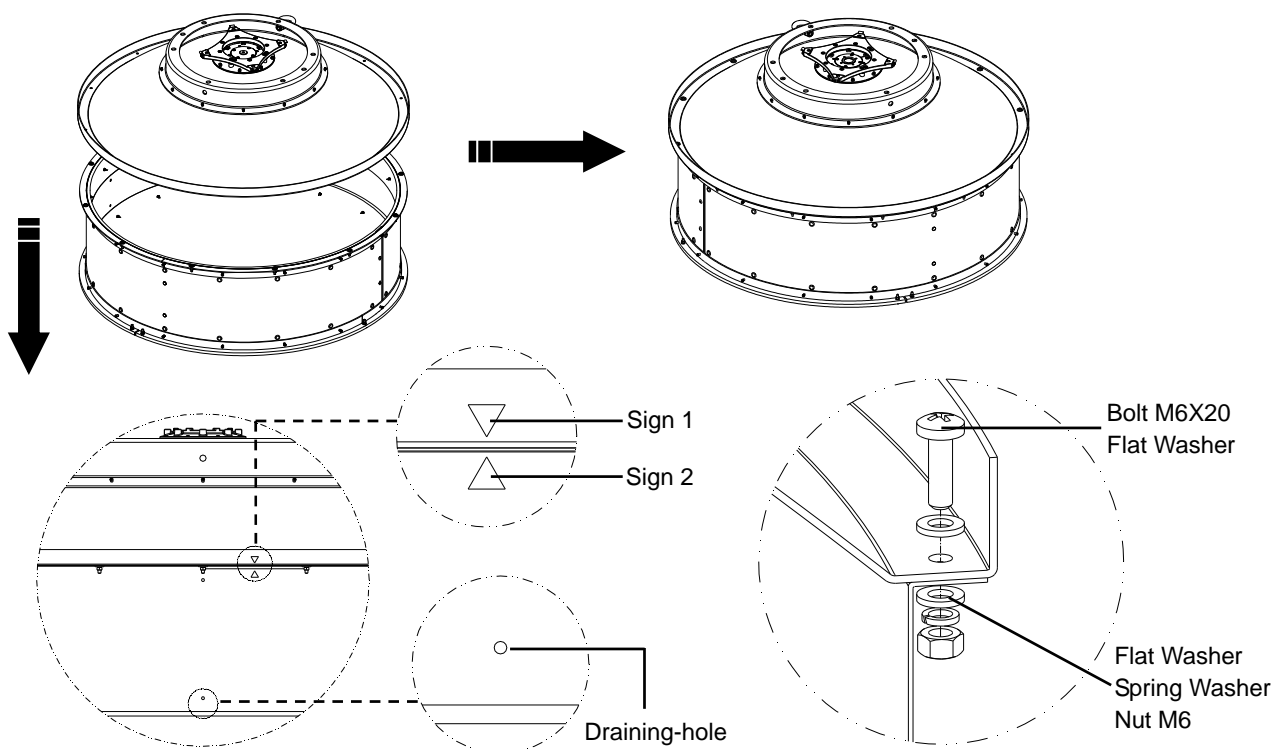

Fig 4.1
4.1 Turn the Reflector Assembly over, and then fit it onto the Shroud Assembly with Sign 1 and Sign 2 aligned (shown in Fig 4.1).